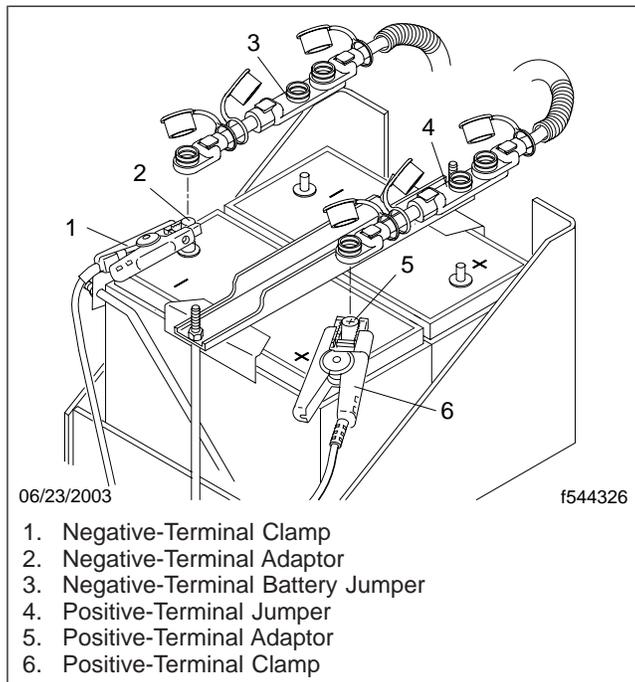

Fig. 2, Battery Connection
1. Screw an adapter onto the negative-terminal stud and one onto the positive-terminal stud. See Fig. 2.